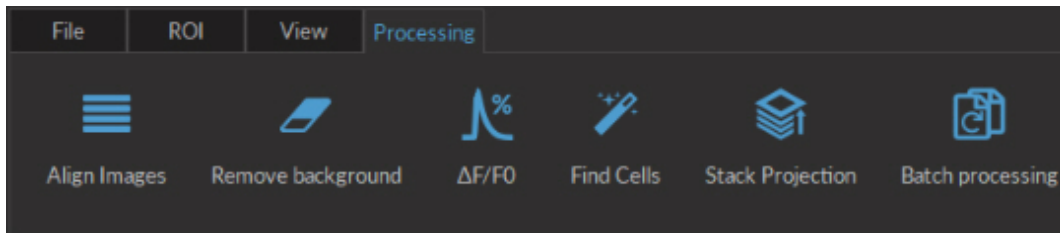

Figure 4.5: Processing Tab
4. The **Processing tab** (Fig. 4.5) is used to process the image data.